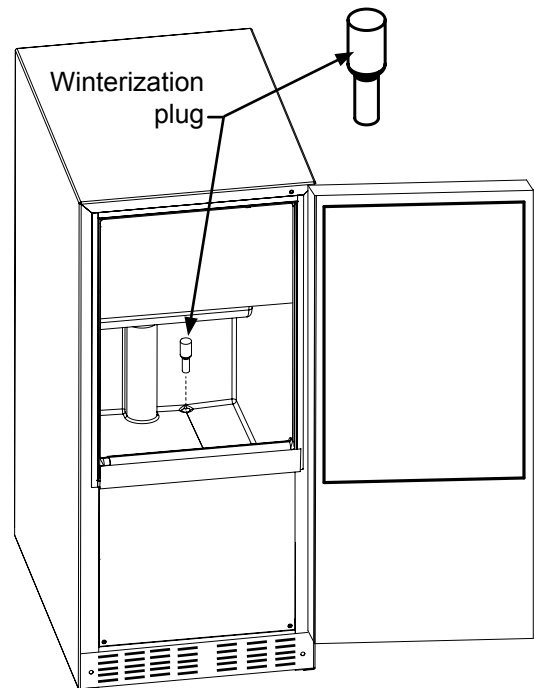

Figure 20
13. Install the winterization plug in the water drain hole inside the ice bin. (See Figure 20).